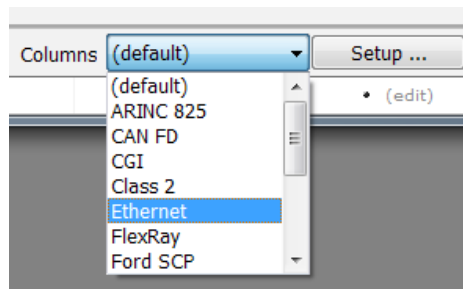

Figure 13: Selecting the Ethernet Column Display. This setting will cause *Messages View* to display information pertinent to work with Automotive Ethernet.
- **Change the Messages View Columns Display to Ethernet:** Near the bottom of the *Messages View* you should see the word *Columns*, and to the right, a drop-down box in which “(default)” is currently selected. Click the box, scroll down, and change the setting to “Ethernet” (Figure 13).